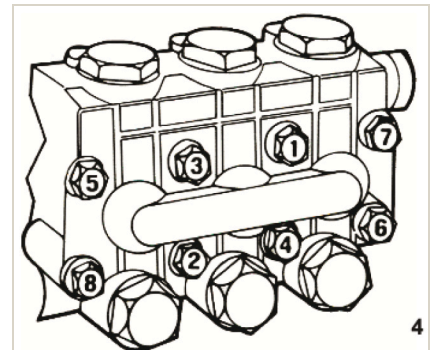

Figure 3 — Head tightening sequence 1 – 8.
- ① Install new O-rings in each valve cavity.
- ② Insert the pre-assembled valve into the cavity.
- ③ Replace the valve cap and torque to the manufacturer's specification, following the torque sequence (Figure 3).